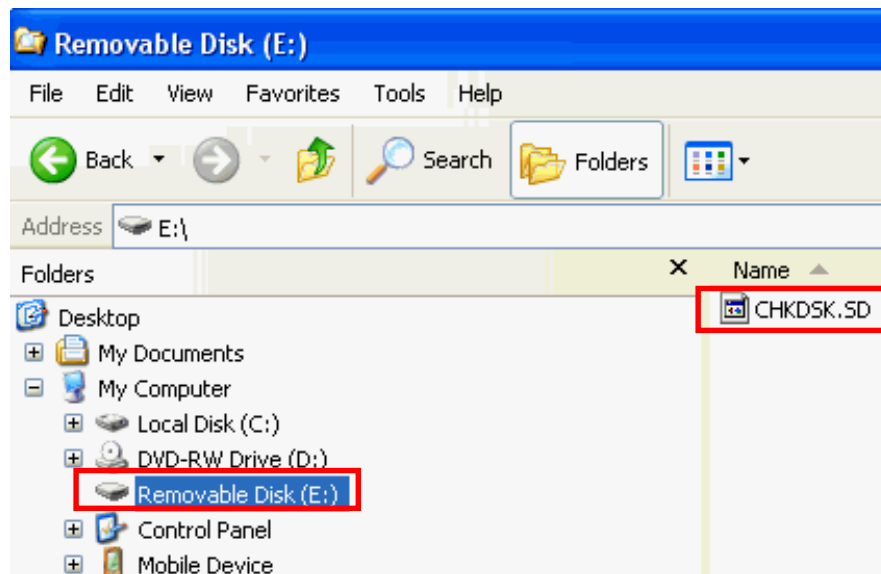

Figure 150: Automatically Generated CHKDSK.SD File
1. Prior to logging data to the internal device (SF-3050), type the command [FSFORMAT]A:;DEFAULT to check for corruption and to format the internal flash; a “CHKDSK.SD” file will be created automatically upon completion of formatting (see Figure 150).
2. Type [USBMODE]Device,MassStorage in the *Input Terminal* window. The SF-3050 2GB internal memory chip or the SF-3040 removable SD card will show in Windows Explorer as an additional (removable) drive (see Figure 150), similar to a camera when connected to the USB port.
2. Type [USBMODE]Device, MassStorage on the *Input Terminal*. The SF-3050 2GB internal memory flash will show in Windows Explorer as an additional "removable" drive (see Figure 150).
3. Open the datalog folder (see Figure 150) on the removable drive and select the folders or files to store on the PC.